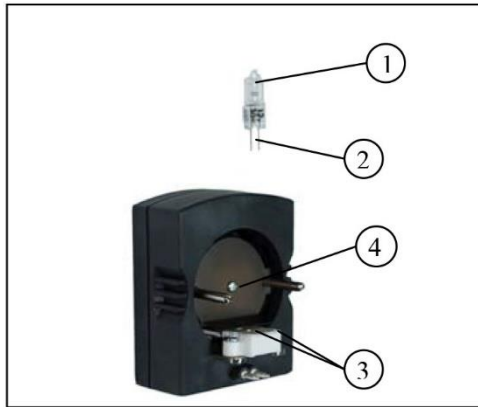

Figure 3
2.2.1. Installing and replacing the lamp (Figure 3)